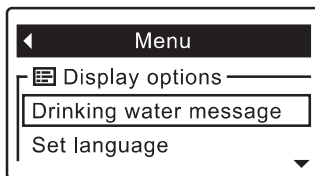

FIG. 59
2. Press the remote's SELECT (○) button to display the drinking water status menu (See Figure 59).
3. If necessary, press the DOWN (▼) button to scroll through the menu options until **Drinking water message** is highlighted in a box (See Figure 59).
6. Press the SELECT (○) button. The display will go back to the menu shown in Figure 59.